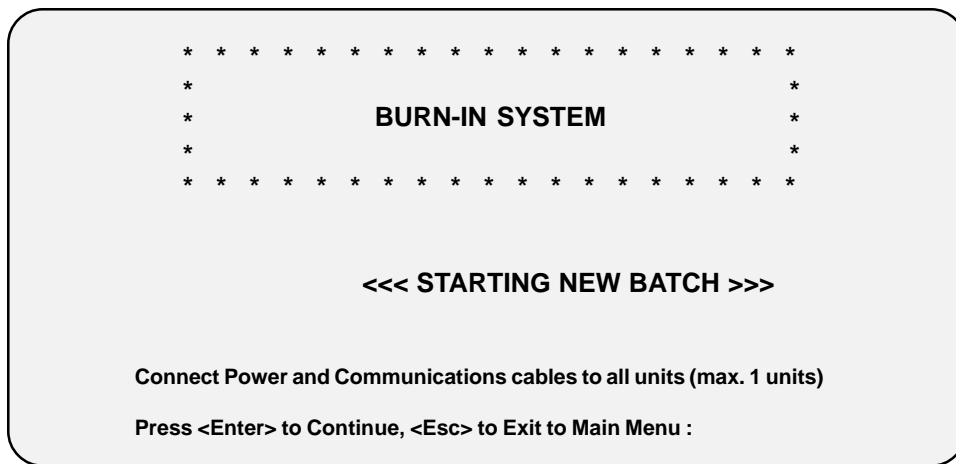

Figure 9. Starting new batch
2. Once the burn-in system **Starting New Batch** menu appears on the screen (Figure 9), press the Escape (**Esc**) key.